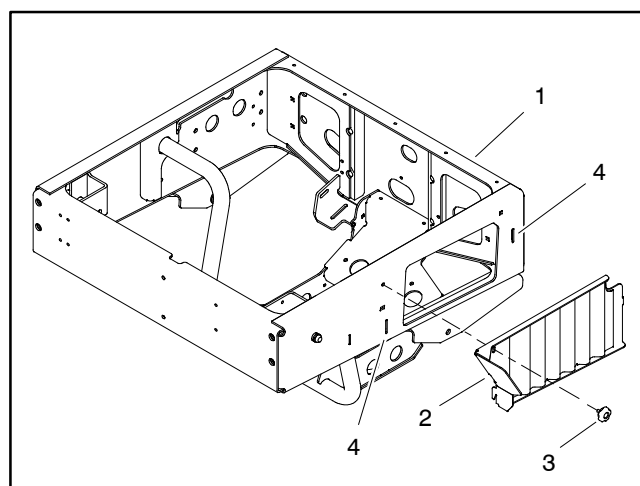

Figure 10
3. Remove knob that secures radiator screen to right side of rear frame (Fig. 10). Lift screen to separate tabs on screen from slots in frame and then remove screen from vehicle.
4. Remove caps (items 2 and 6) from surge tank and radiator filler neck to allow complete draining of cooling system.
7. Disconnect the coolant hose (item 22) from the fitting located on the lower radiator tube.
8. Remove four (4) washer head screws (item 20) and three (3) flange nuts (item 14) that secure the radiator shrouds. Also, disconnect wire harness clips from upper radiator shroud. Carefully remove upper radiator shroud from vehicle.
10. Remove three (3) carriage head screws (item 13) and flange nuts (item 14) that secure the radiator to the rear frame.
2. Carefully position radiator to the rear frame. Secure radiator to frame with three (3) carriage head screws (item 13) and flange nuts (item 14).
3. Position upper and lower radiator shrouds around the fan and to the radiator. Secure shrouds together with four (4) washer head screws (item 20). Then, secure shrouds to frame with three (3) flange nuts (item 14). Make sure that equal clearance exists between shrouds and fan at all points.
5. Connect coolant hose (item 22) to the fitting located on the lower radiator tube and secure with hose clamp. Make sure that hose is not kinked at any point after installation.
6. Install radiator screen to rear frame and secure with knob (Fig. 10).